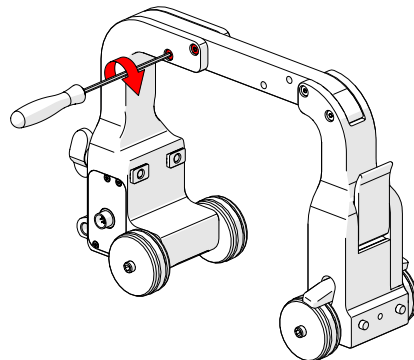

Fig. 20 - Tighten shoulder screws
3. Tighten the 2 shoulder screws with the supplied 2 mm hex driver (Fig. 20).